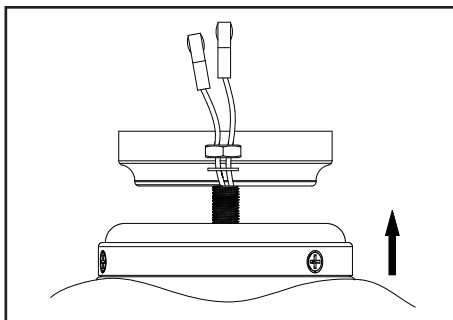

Figure 20
2. Pass the light kit wires, gasket and nut through the hole of the switch box cover, then tighten the nut securely . (Figure 20)